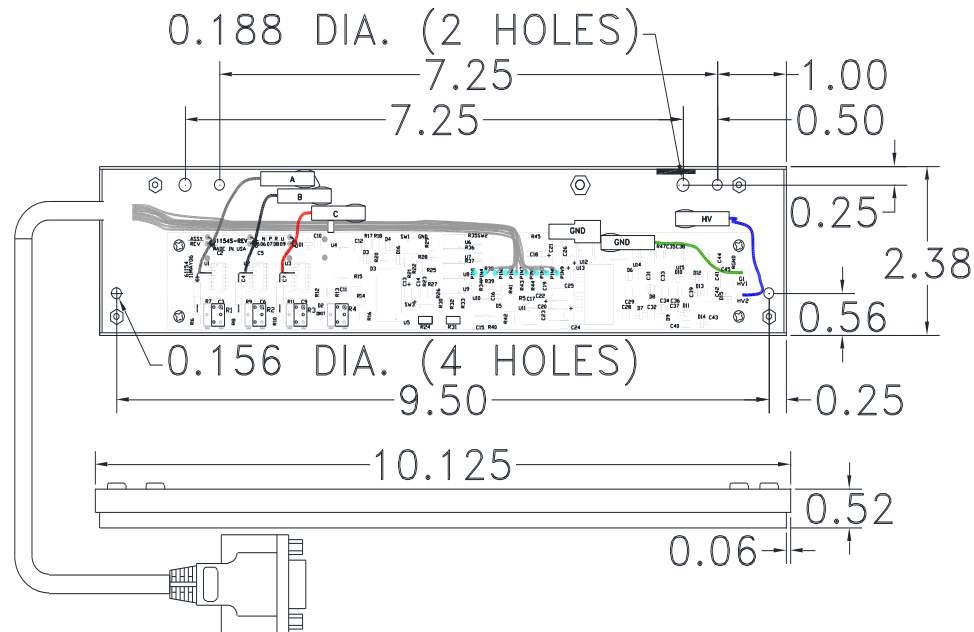
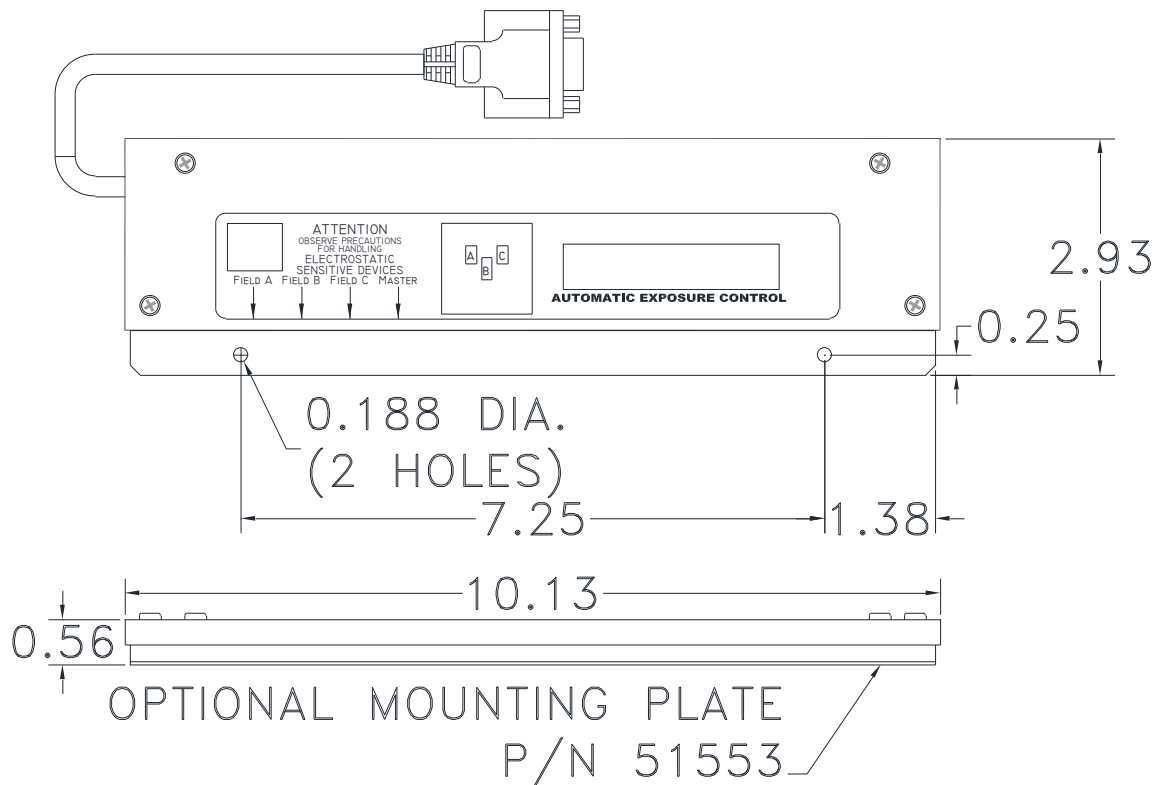

Figure 2: Step 6 - Location of mounting holes
Figure 3: Mounting plate, P/N51553
6. Mount the remote pre-amp assembly as required. The pre-amp chassis offers four (4) 0.156-inch diameter mounting holes and two (2) 0.188-inch diameter mounting holes as shown in Figure 2. Optional mounting plate is also available upon request (refer to Figures 3 & 4)
7. Reinstall the cover to the remote pre-amp chassis using the four (4) 4-40 X 3/16 screws removed in Step 2.